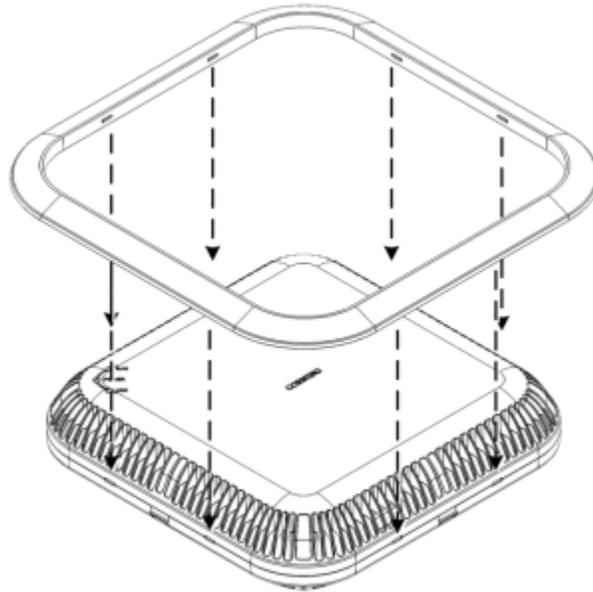

Figure 5-58. Assembling RAU Frame Cover
5. Referring to Figure 5-58, assemble the RAU Frame Cover (provided with the RAU) onto the RAU.